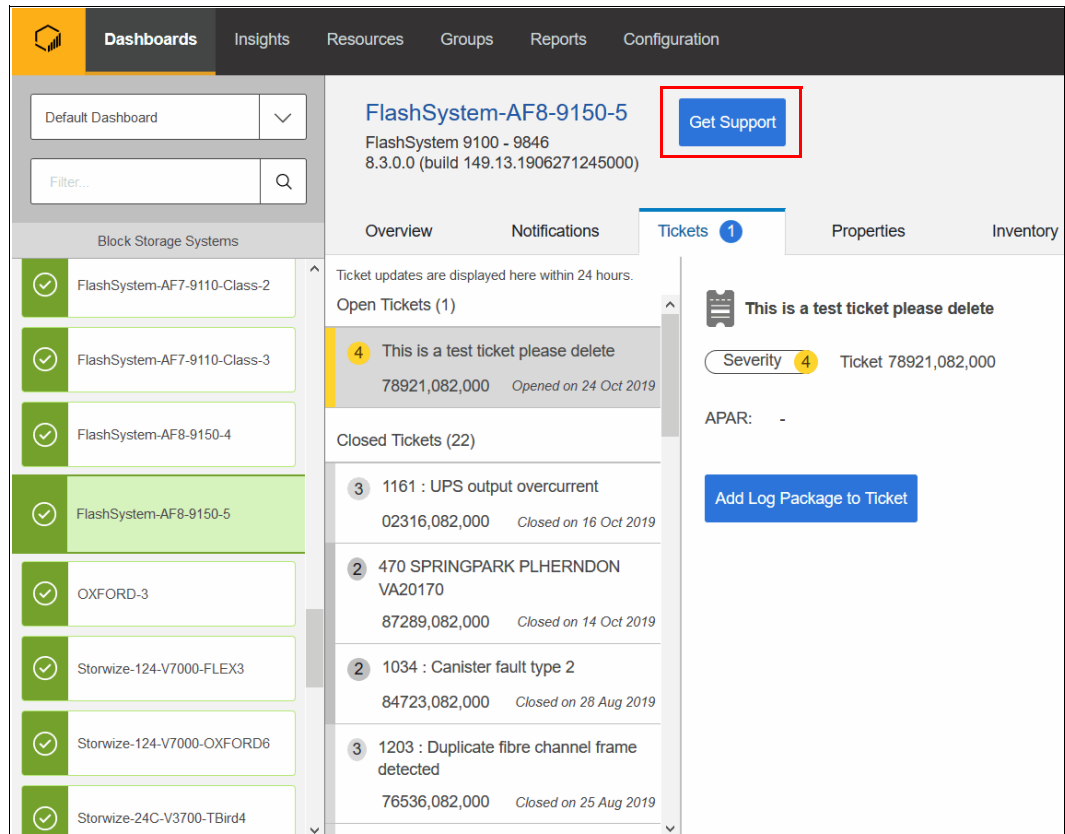

Figure 13-83 Get Support
1. Select the system to open the System Overview and click **Get Support**, as shown in Figure 13-83.